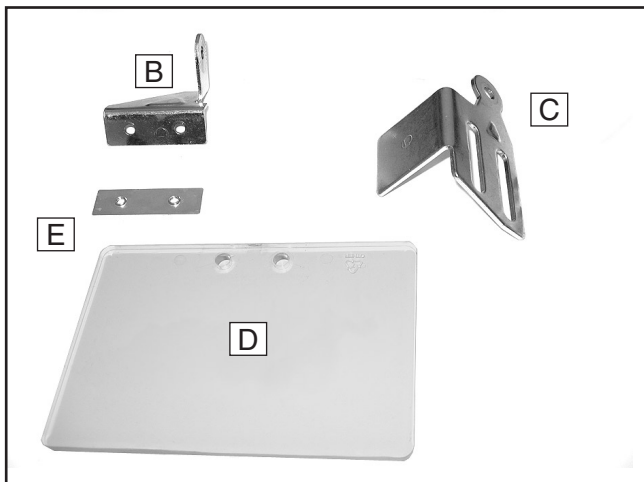

Figure 3. Left eye shield assembly.
- | Box Contents: (Figure 3 & 4) | Qty |